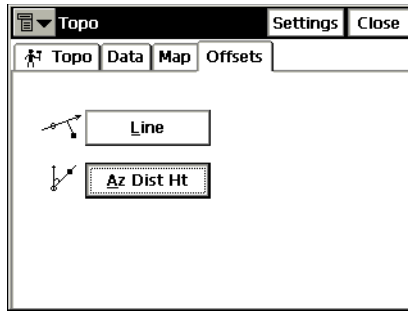

Figure 6-14. Topo – Offsets
4. If the location of the point to be observed is unreachable, set offset parameters using simple offset or offset from a line. Tap the Offsets tab (Figure 6-14 on page 6-13).